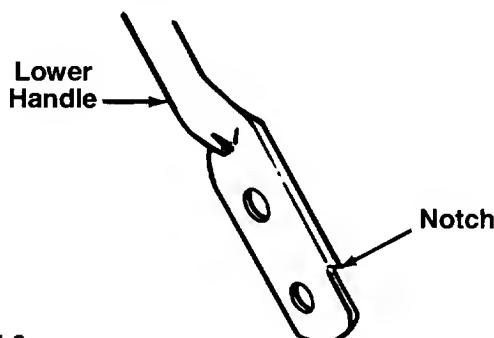

FIGURE 6.
- Turn the lower handle around so the notches on the bottom of the lower handle are facing forward as shown in figure 6. Reassemble, placing the bottom holes in the handle over the weld pins in the handle mounting bracket.